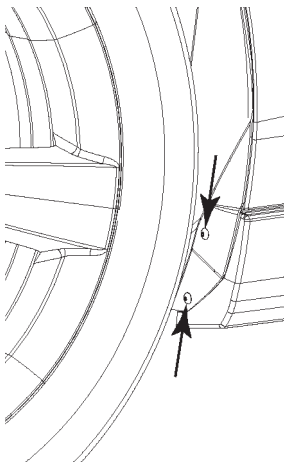

FIGURE 28A
14. Insert 4 screws from step 3 into rear and front wheel well hole locations. Torque 12in-lb. (1.35 Nm). Refer to figure 28a & 28b.